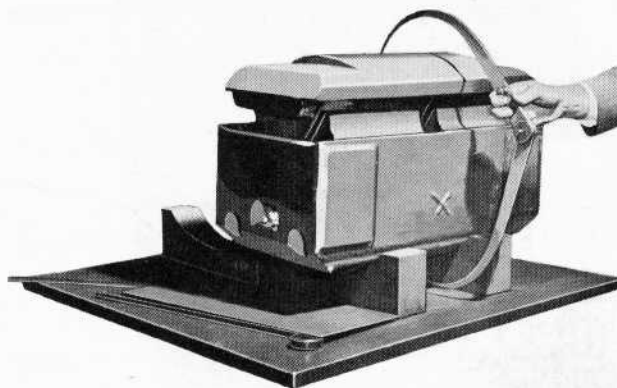

Fig. 6 - Measuring Draft Gear
3. After the parts of the draft gear have been assembled together, press the assembly to settle the parts, then release. Measure the overall height, as shown in Fig. 6.